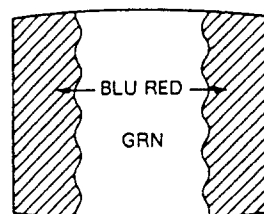

Fig. 3-2
4. Move the deflection yoke backward, and adjust purity magnet so that the green on the screen to become in the centre of screen as shown in Fig. 3-2.